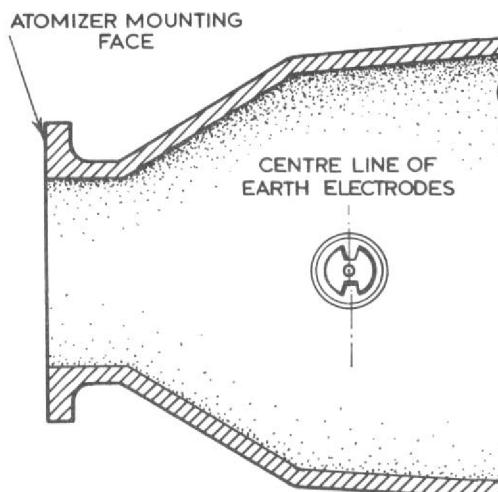

Fig.7 Orientation of igniter plug.
- (1) Remove the transportation nuts and bolts, then separate the plug cap from the plug body.
- (2) Position the gasket on the plug body, then insert the body with the earth electrodes positioned at right-angles to the starter axis as shown in fig.7.
- (3) Position the plug cap, orientated as noted in para. 35 (3), on the body and secure with the bolts and tabwashers.
- (4) Torque tighten the bolts to the specified figure (Table 2) and lock by bending up the tabwashers.
- (5) Assemble the cable connector to the igniter plug and fully tighten.
- (6) Using wire, Table 1 item 6, lock the cable connector to the plug.
- (7) Refit access panels on inner skin of air intakes.
- (8) Thoroughly examine the engine to ensure that nothing has dropped into the engine and remove all tools, etc. from the air intakes.